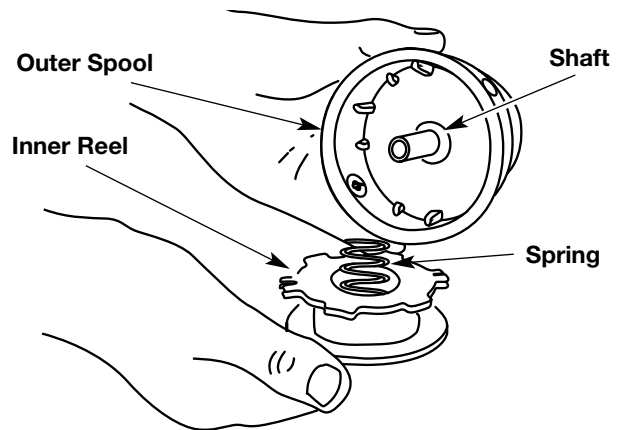

Fig. 22
2. Remove the inner reel from the outer spool (Fig. 22).
3. Remove spring from the inner reel (Fig. 22).
2. Remove the old inner reel from the outer spool (Fig. 22, Pg. 17).
3. Remove the spring from the old inner reel (Fig. 22, Pg. 17).